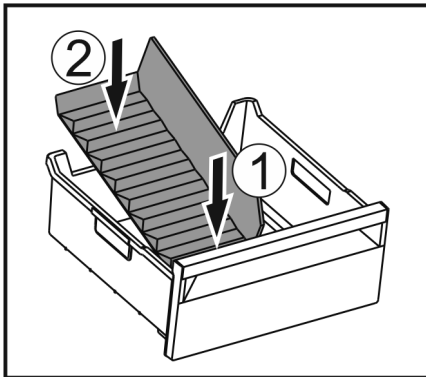

Fig. 144
- ▶ Insert the front part of the ice compartment divider. Fig. 144 (1)
- ▶ Lower the rear part of the ice compartment divider to the drawer bottom. Fig. 144 (2)